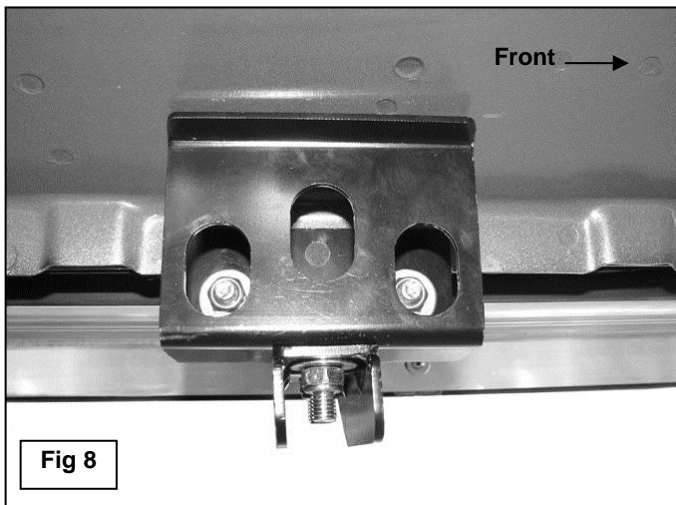

Fig 8
- IMPORTANT:** Select a location for the center Bracket along the pinch weld, mid way between the front and rear Brackets where the seam is as flat as possible, **(Figure 6)**. Do not install the Bracket over any of the drip channels in the pinch weld. Once an appropriate location has been found, slide the outer Clamp Plate and Bracket over the pinch weld with the back part of the Bracket tight against the floor panel, **(Figure 7)**. Tighten the (2) 10mm Lock Nuts to tighten the Clamp on the pinch weld, **(Figure 8)**. Do not fully tighten at this time.